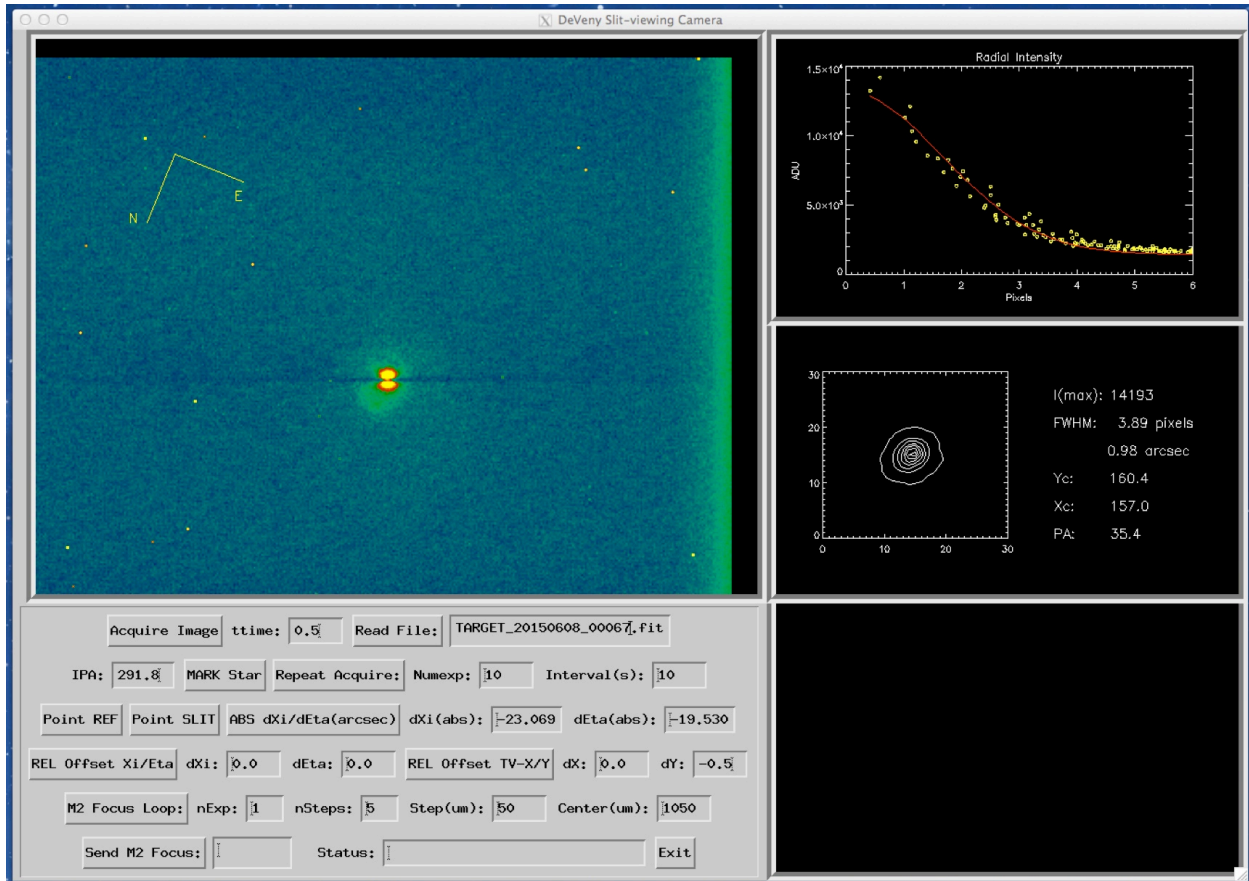

Figure 3. IDL slitviewg control GUI.
- iv. At the idl prompt: type 'slitviewg'. This launches the slit viewing camera top level control GUI (Figure 3).